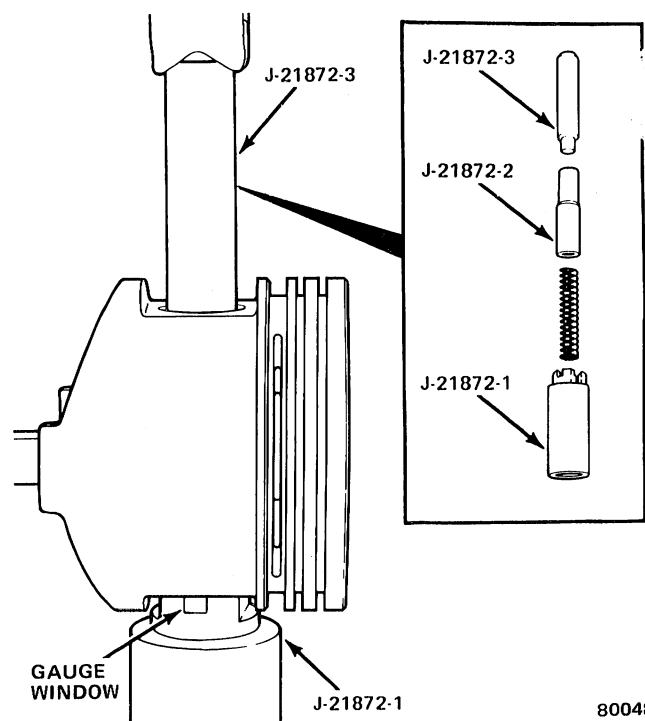

Fig. 1B-90 Piston Pin Removal or Installation
(1) Insert Pin Pilot Tool J-21872-2 through piston and connecting rod pin bores (fig. 1B-90).
(2) Position pin pilot, piston and connecting rod on Support Tool J-21872-1.
(3) Insert piston pin through upper piston pin bore and into connecting rod pin bore.
(4) Position Piloted Driver Tool J-21872-3 inside piston pin.
(5) Use arbor press to press piston pin through connecting rod and piston until pin pilot indexes with mark on support.